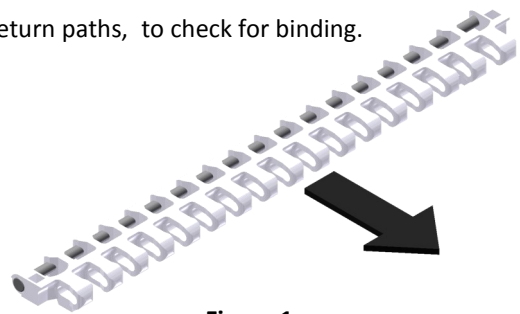

Figure 1
- Verify chain direction is correct (See Figure 1)